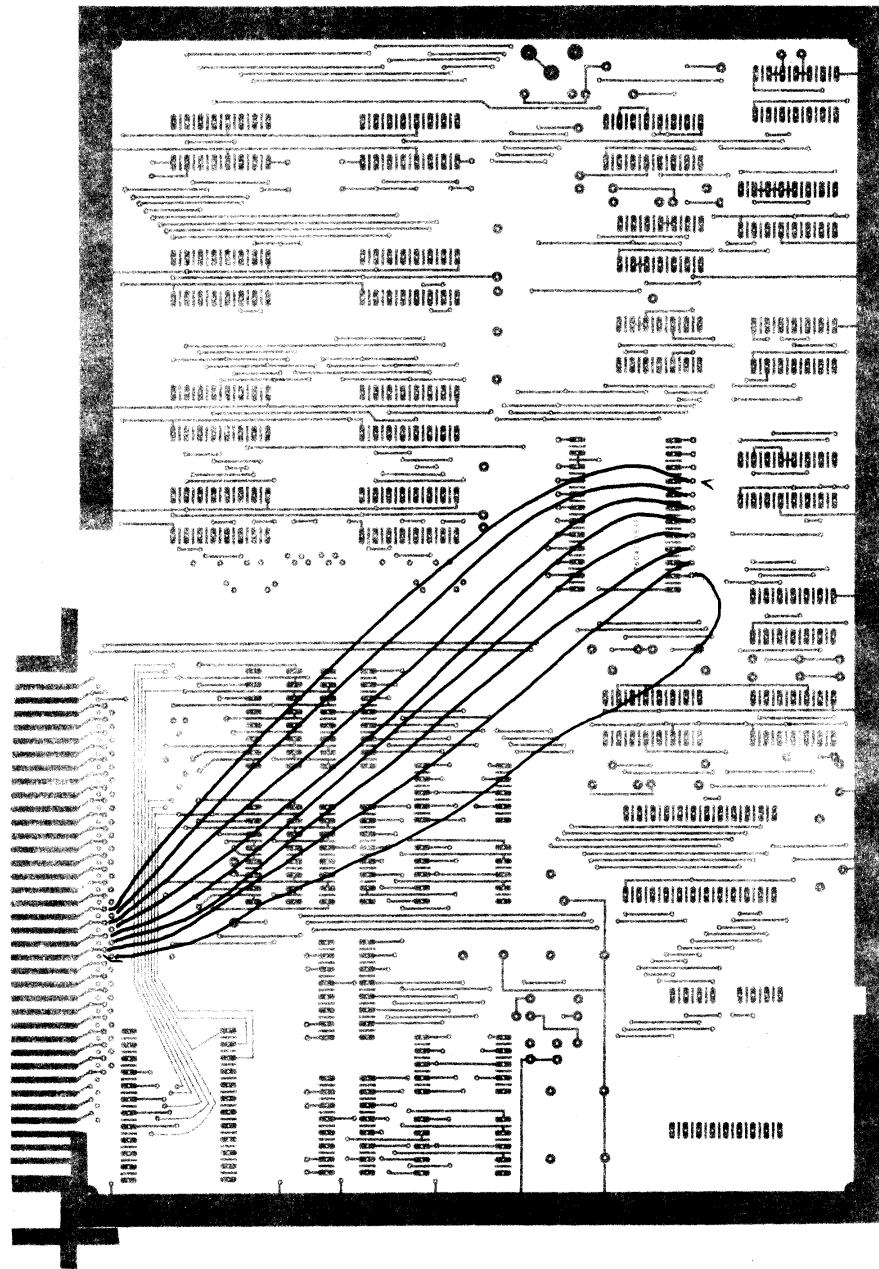

Figure 14. Data Pulse Bussing to PROGRAM Socket
- (.) Cut and prepare eight 7 inch lengths of wire. Connect as indicated in Figure 14.